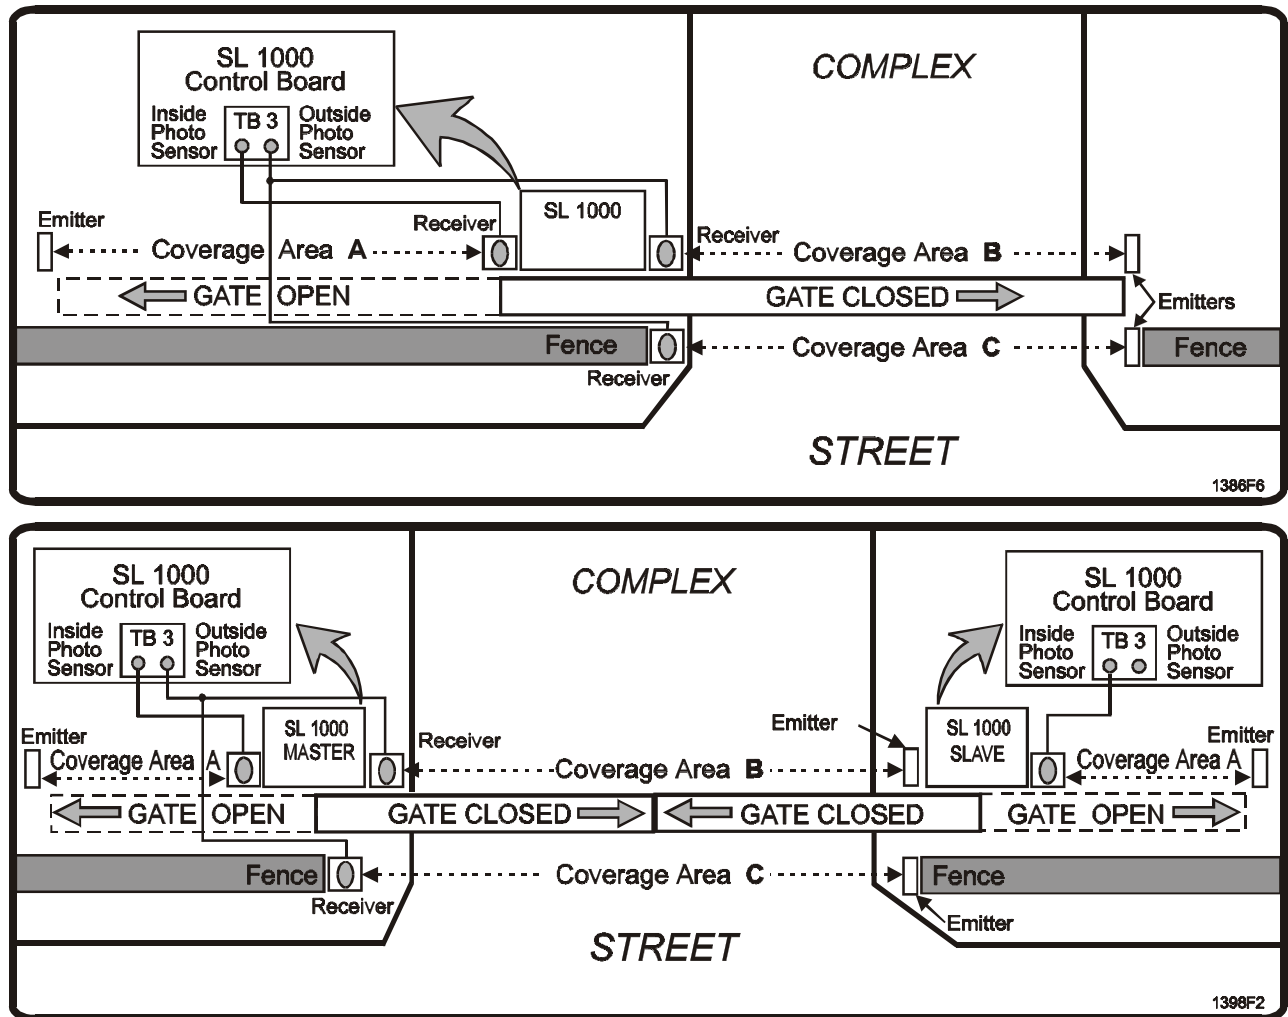

Figure 7. Photo-Sensor Layout.
The installation shown in Figure 7 is a suggested layout using emitters and receivers. Any UL approved photo-sensors are acceptable, **but they must cover the entire length of gate travel to be effective.**
1. Install photo-sensors in three places as shown in Figure 7.